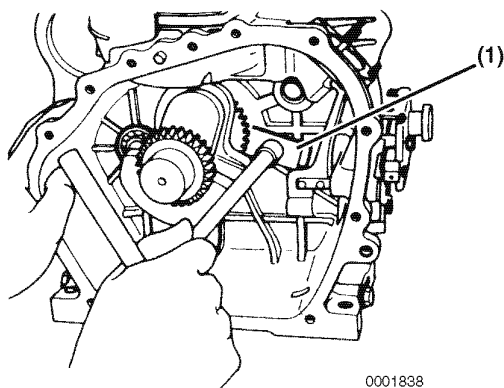

Figure 8-94
8. Position the bearing retainer plate (**Figure 8-94, (1)**) in the crankcase.